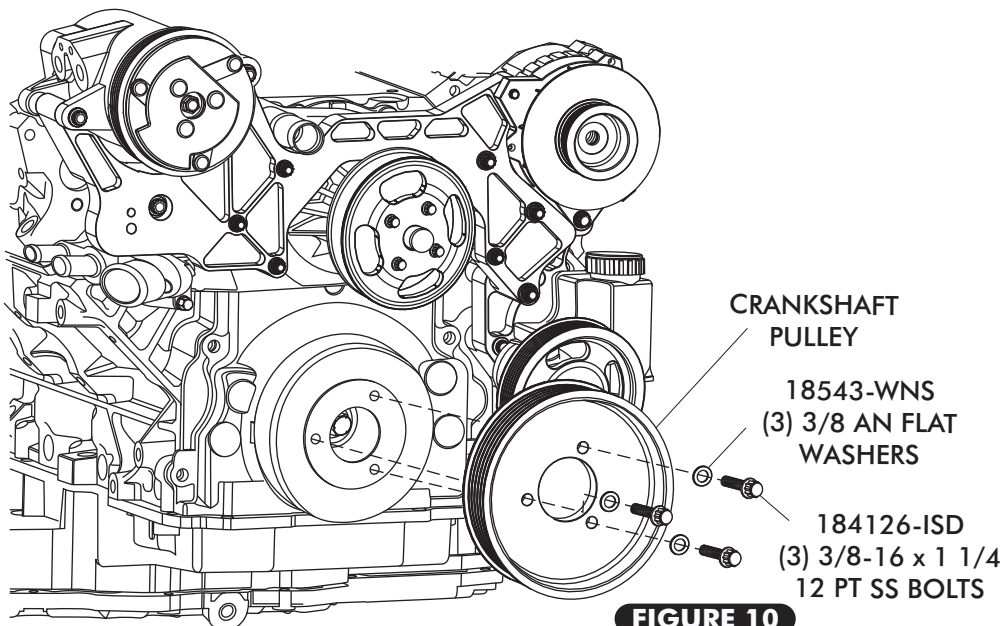

FIGURE 10
- INSTALL CRANKSHAFT PULLEY ONTO DAMPER USING (3) 3/8-16 x 1 1/4 BOLTS AND (3) 3/8 AN FLAT WASHERS AS SHOWN IN FIGURE 10 BELOW. TORQUE TO 25 LB FT.